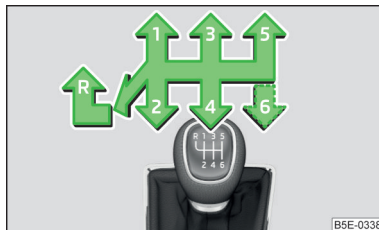

Fig. 135
The shift pattern for the individual gear positions is shown on the gear lever » Fig. 135.
- Move the shift lever fully to the left and then forward into **R** position » Fig. 135.